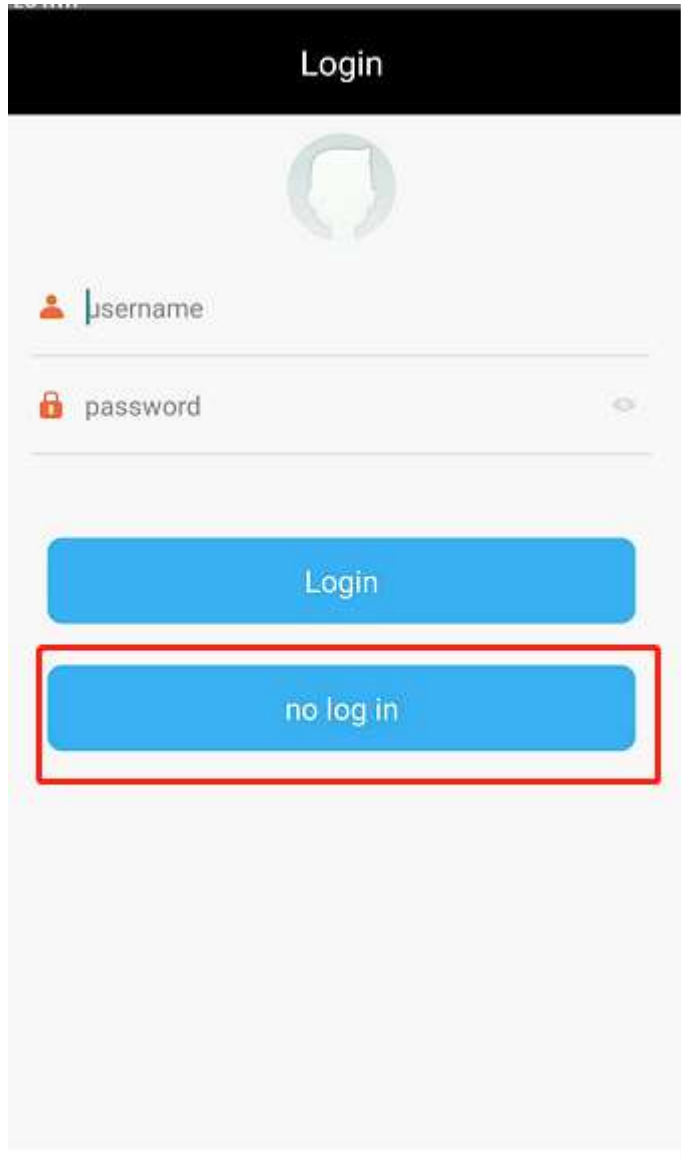

Figure 3-1
2. After GCS installation,the label will be appeared as figure 3-1.